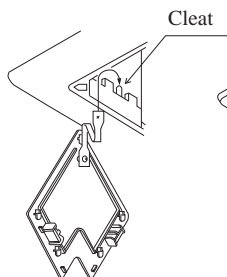

Figure 8
(2) Install the corner cover on the corner
**As Figure 8 shown, tie the rope of the corner cover on the cleat of the decorative panel.